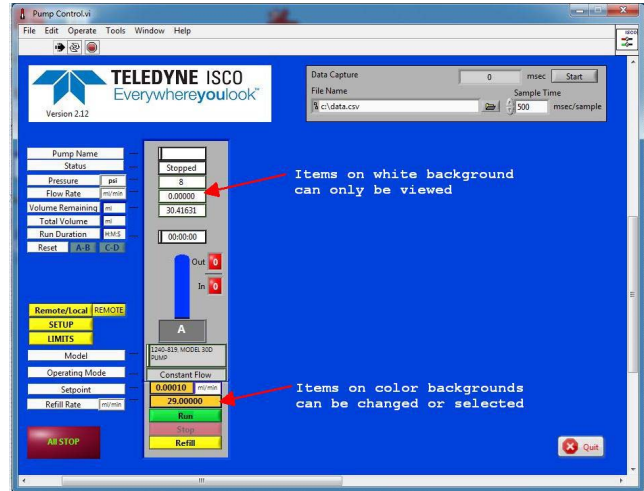

Figure 15: Main screen in remote mode
10. Pressing the Remote/Local key switches to the Remote mode (Figure 15). Items on colored backgrounds can now be selected or the values changes.